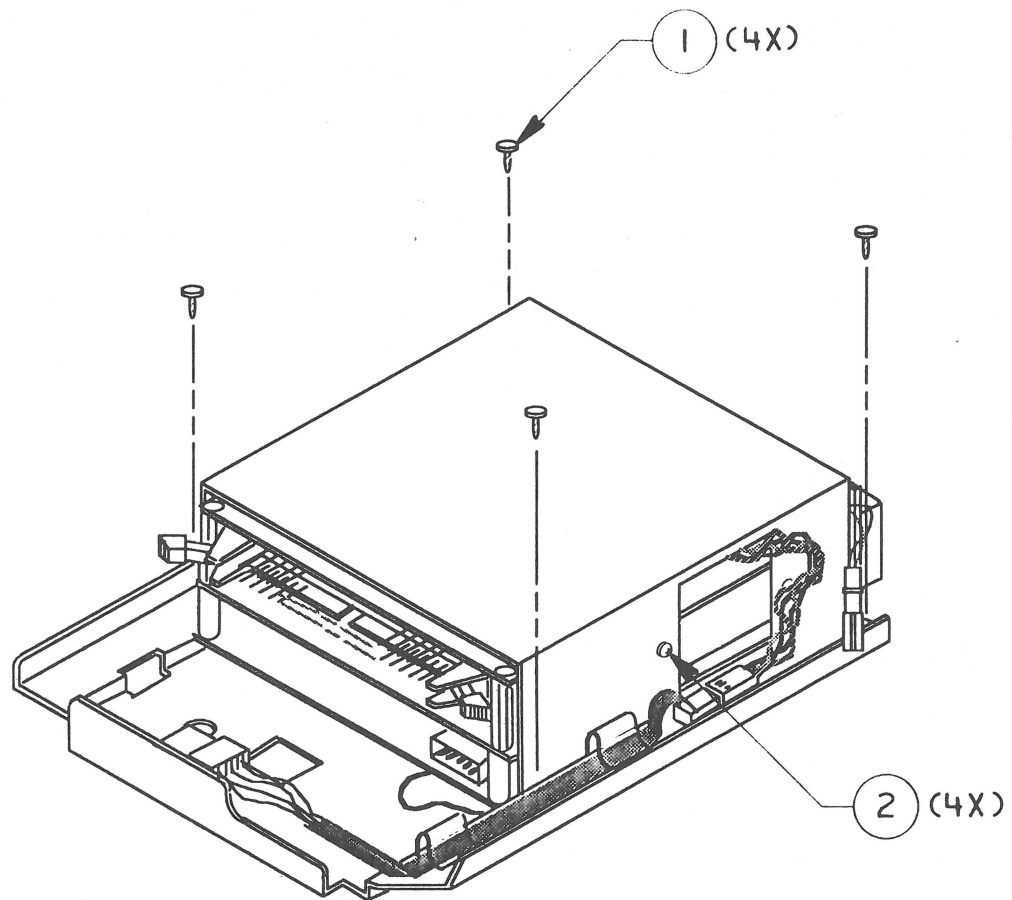

FIGURE 2
(Figure 2)
□ TAPE BACKUP 40SC – MECHANISM ASSEMBLY (Figure 2)